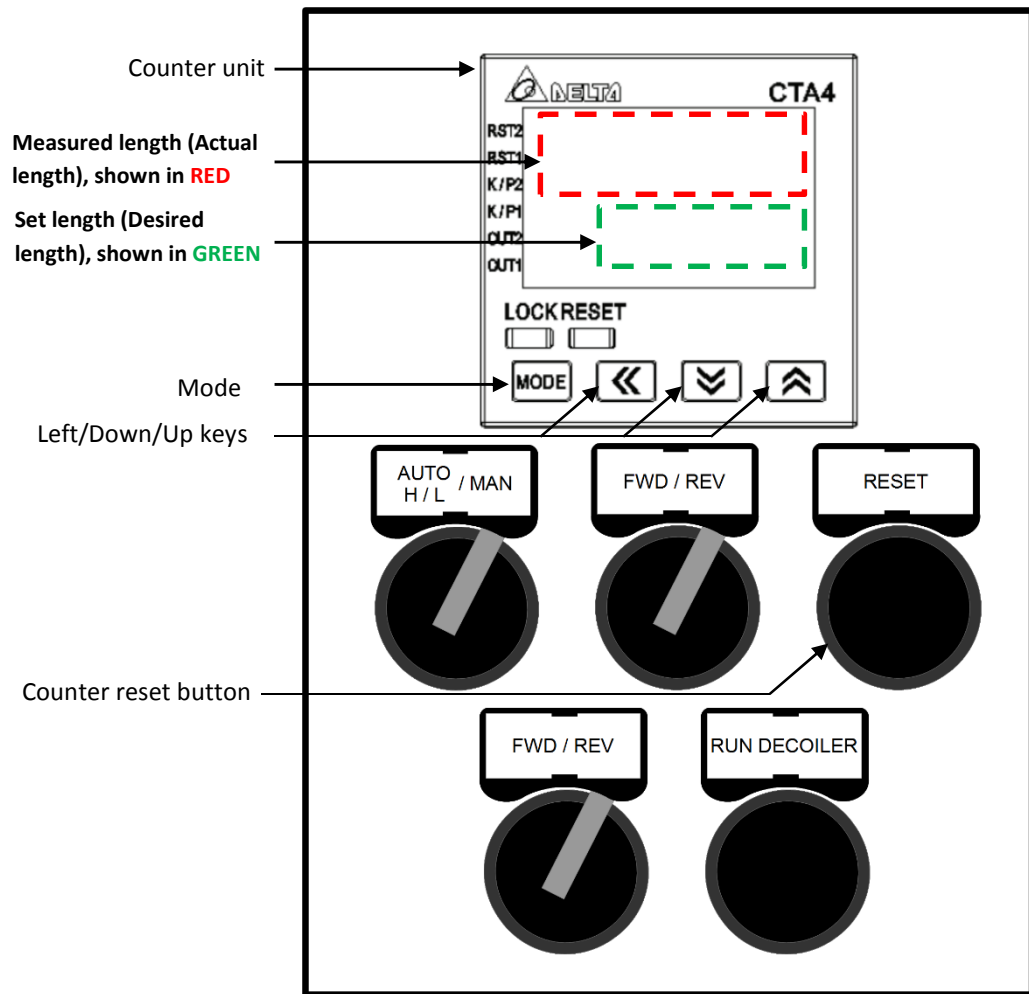

Figure 13: Length counter unit control box
5. Write down the measured length shown on the counter control display (see Figure 13).